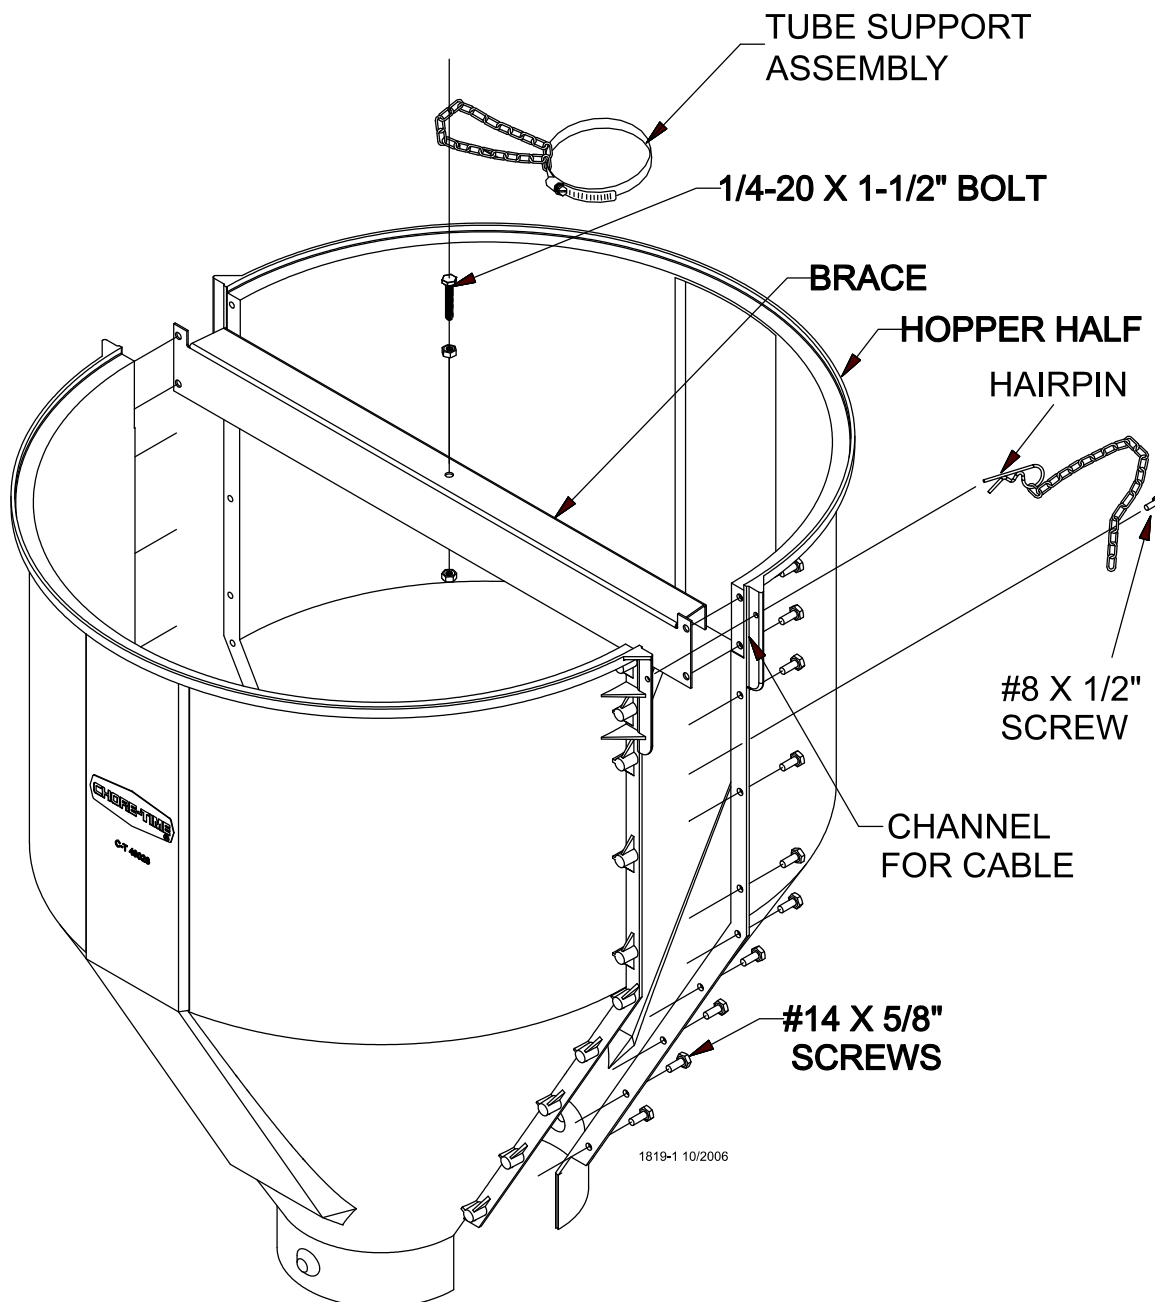

Figure 18. Hopper Assembly
1. Assemble the 1/4-20 x 1-1/2" bolt to the brace with two 1/4-20 nuts. One nut should be assembled under the brace with the other on top. This bolt is to provide a place for the tube support assembly chain to be hooked, see figure 18.
2. Assemble the 150 lb. hopper halves and brace as shown in Figure 18, using #14 x 5/8" screws (supplied in hardware package).
3. Assemble the #8 x 1/2" screws and chain as shown in Figure 18.